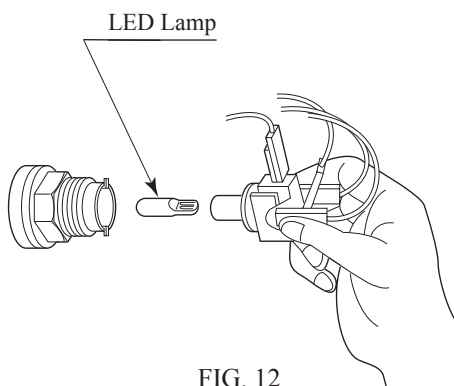

FIG. 12
- ① Turn the power switch in the satellite AC unit to OFF.
- ② Release the Station Lid.
- ③ Squeeze tightly on both sides of switch at the base of the button, and pull out from the button (Figure 12).
- ④ To replace, pull the LED lamp straight out without turning.